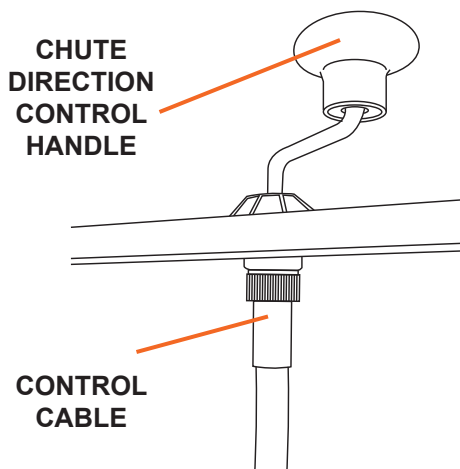

Figure 4
1. Attach the chute direction control cable to the chute direction handle by threading onto the receptacle underneath the control panel (see Figure 4).